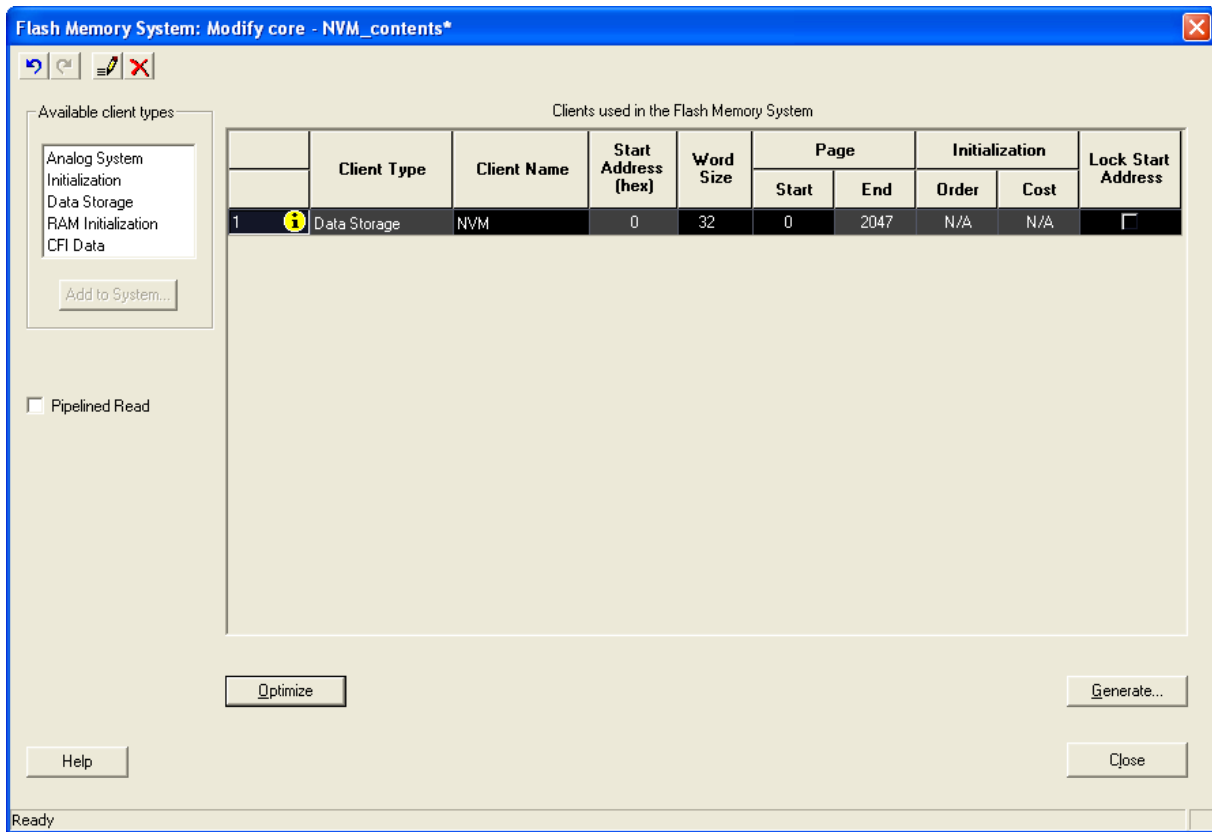

Figure 3-28 • Data Storage Client in Flash Memory System Window
10. Click **OK**. Now the Data Storage client you just created appears in the Flash Memory System window (Figure 3-28).